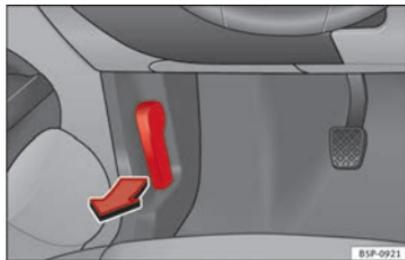

Fig. 157 Detail of footwell area on driver side: lever for unlocking the bonnet
- To release the bonnet, pull the lever under the dash panel ⇒ Fig. 157 in the direction indicated (arrow). The bonnet will be released by a spring action ⇒ ⚠.